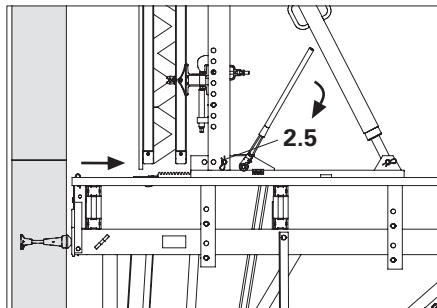

Fig. B3.02.1
2. Place ratchet lever, SW 19, on the transmission screw (2.5). Depending on the effect of the ratchet on the lever, the carriage is moved towards or away from the wall. (Fig. B3.02.1 + B3.02.2)